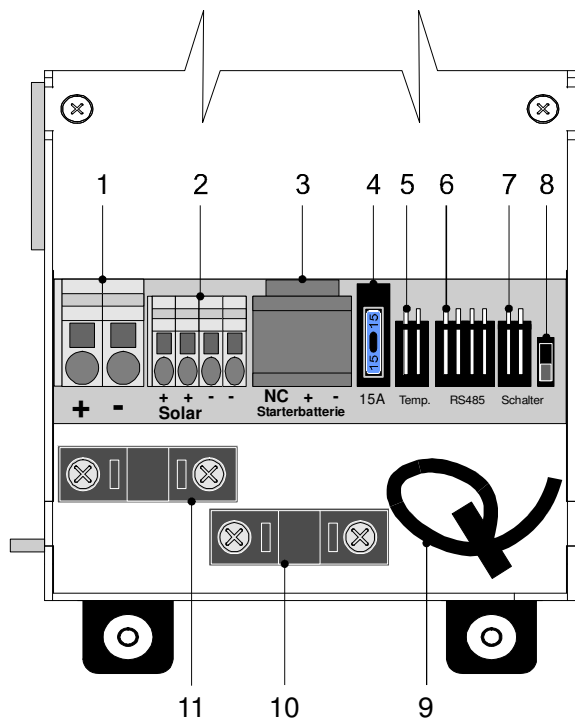
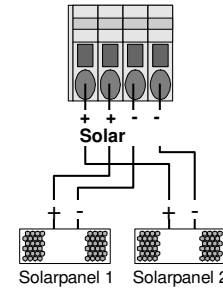

Fig. 3: Connection diagram Module B
Fig. 9
Connect the supply battery to the cage tension spring clamps on Module B (fig. 3 pos. 1 and fig.7). Cable cross section for lengths of up to 3m - 6 mm², and from 3m - 10 mm². Ensure correct polarity connection. The positive charge current conductor has to be protected with a 40 A fuse near the positive pole of the supply battery.
Connect the solar cells according to the connection diagram on Module B (fig. 3 pos. 2 and fig. 9). One or two solar panels can be connected. Use the cables with a cable cross section of at least 2.5 mm² for a capacity of up to 85 watts. Take note of the solar cell manufacturer's recommendations for the cable cross section. Both interior cage tension spring clamps (plus - left, minus - right) are for the connection of solar panel 1. Both exterior cage tension spring clamps (plus - left, minus - right) are for the connection of solar panel 2.
In case you would like to operate Module B with a temperature sensor for the supply battery, connect the temperature sensor plug to the 2-pole connector (fig. 3 pos. 5). If the Module B is operated together with a temperature sensor for the supply battery, the Module B controls the charging voltage automatically depending on the battery temperature. This ensures a particularly effective and gentle charging process for the battery. When not using a temperature sensor, the Module B controls the charging process as if the battery temperature was 20 °C.
Connect the 4-pole plug of the RS 485 data transmission cable to the Module B connection (fig. 3 pos 6) and to the connection of Module C1 (see also operation instructions Module C1). A main switch is integrated onto Module C1. Should there be a separate main switch already connected, this will be functionless through the connection of a Module C1.
When using Module B without extension through a Module C1, the plug for the separate main switch on the 2-pole connection of the Module B (fig. 3 pos. 7).
Set the changeover switch for the battery type (fig. 3 pos.8) to the setting “Gel” (rear position) if your supply battery is a gel battery. Set the changeover switch for the battery type to the setting “liquid” (front position) if your supply battery is a liquid electrolyte battery.
Fasten the supply battery, the solar panels and the starter battery cables using both stress relief terminals (fig. 3 pos. 10 and 11) and the cables for the temperature sensor, Module C or main switch with cable band (fig. 3 pos. 9).